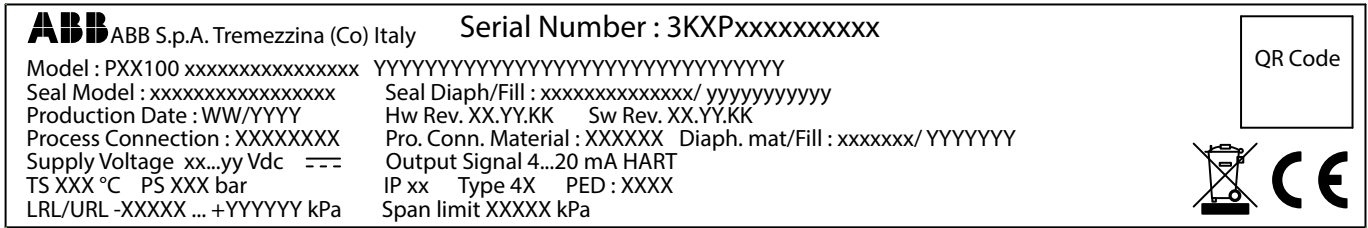

Figure 2 - Nameplate for pressure transmitter model PGXxxx/PAXxxx
The plate in figure 2 provides detailed information associated with the transmitter, concerning the model code, date of production, hardware and software revisions, process wetted materials, power supply range, output signal, maximum working temperature (TS) and pressure (PS), IP rating, PED identification code, range and span limits, calibration range and special request number (if applicable) in another section.